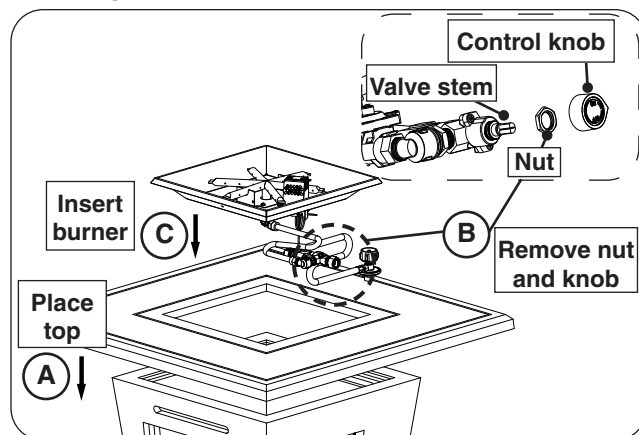

Fig. 28-2 Place top and burner
3. **Carefully** place the top on the unit (see Fig. 28-2, A).
4. Locate the valve and burner assembly. Remove the control knob. Use a 20mm socket to remove the nut attached to the valve stem. See Fig. 28-2, B.
Then drop the valve and burner assembly into the opening in the center of the firetable top, with the two burner pan holes facing toward the door (see Fig. 28-2, C).